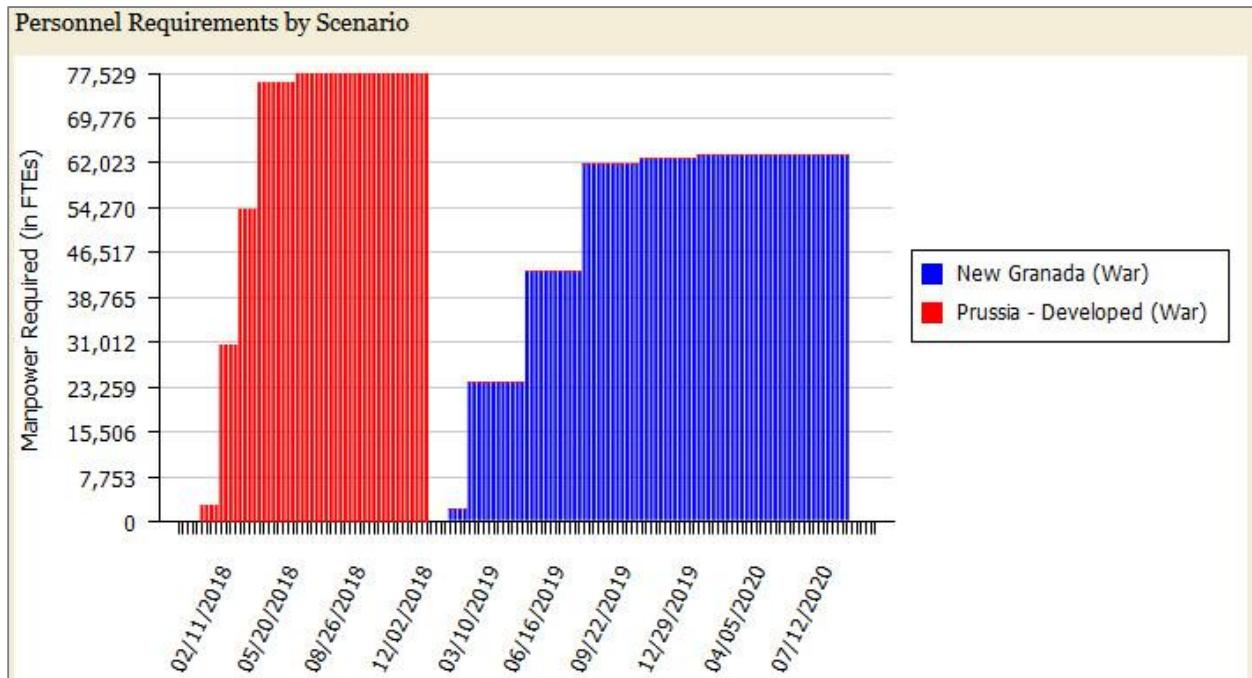

Figure 1. Prussia and New Granada baseline analysis: Personnel Requirements by Scenario.
Create a baseline analysis with no overlap between the two mission scenarios. This analysis assumes that the U.S. will have access to existing bases in the Prussia region, so the “Prussia – Developed” scenario is used. No overlap is a good baseline for analysis because no overlapping mission scenarios mean zero competition for resources (Figure 1). Therefore, it is easier to see the impacts of overlapping mission scenarios and of increasing phase durations.
21. Personnel Requirements by Scenario graph should look like Figure 1. It can take a while to load.